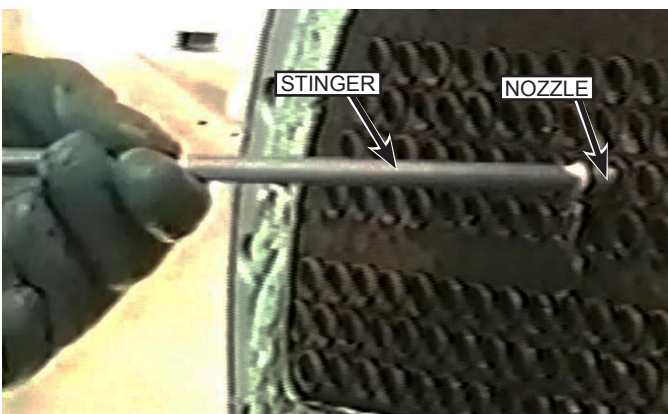

Fig. 10: Lance Stinger
- Lance Stinger (Fig. 10) - Gives the operator greater control of the nozzle. Stingers establish a “safety zone” so the operator knows when the nozzle is about to exit the tube. Stingers will also eliminate the possibility of nozzle and lance “double back” toward the operator when cleaning large diameter pipe if the stinger is at least 1.5 times the diameter of the pipe being cleaned.